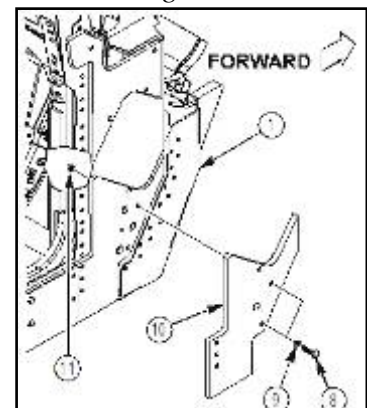

Figure 34c
16. Install 6435011-01M1 or 6435011-200M1 right hand A-pillar panel IED aluminum overlay (10) on vehicle (1). Push forward towards front of vehicle and secure with two 4397000-069 capscrews (8), 4397005-014 washers (9), and 4397064-005 locknuts (11) as shown in figure 34c. Do not tighten locknuts (11) at this time.
23. Tighten two locknuts (11) to 37 lb-ft (50.2 N·m). Refer to figure 34c.